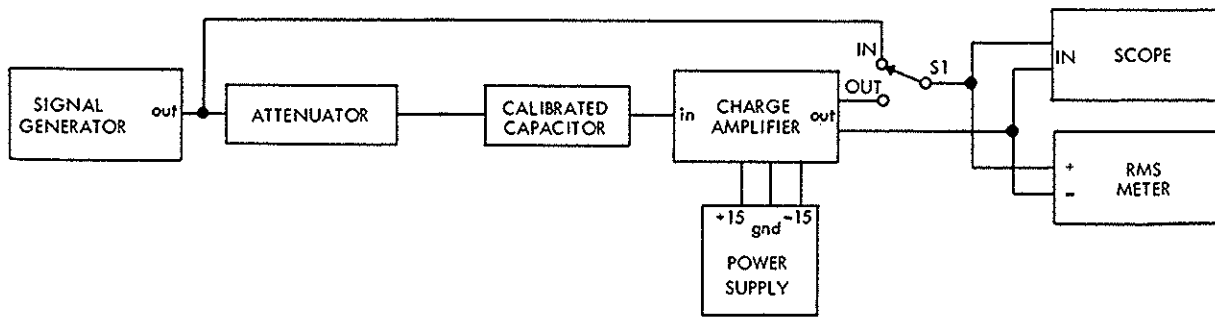

Figure 5-1. Operation Check Set-Up.
In Figure 5-1, a charge input signal is produced by applying an ac voltage to the amplifier input through a known value of capacitance. The charge (Q) seen by the amplifier input is equal to:
- a. Connect equipment as shown in Figure 5-1. All signal leads must be shielded. Ensure that only one point of test setup is grounded to prevent ground loops.
This test verifies the charge amplifier's output swing is within specification. Test setup is shown in Figure 5-1. The conditions of paragraph 5.2 apply.
This test verifies the charge amplifier's $\mu\text{C/g}$ sensitivity control is operating within specification. Test setup is shown in Figure 5-1. The conditions of paragraph 5.2 apply.
This test verifies the charge amplifier's mV/g gain control (or g FULL SCALE control) is operating within specification. Test setup is shown in Figure 5-1. The conditions of paragraph 5.2 apply. The test steps are given in Table 5-2. Input frequency is 100 Hz. Apply the input and adjust controls as indicated. Verify the output level shown for each step.
This test verifies the frequency response of the charge amplifier is within specification. Test setup is shown in Figure 5-1. The conditions of paragraph 5.2 apply.